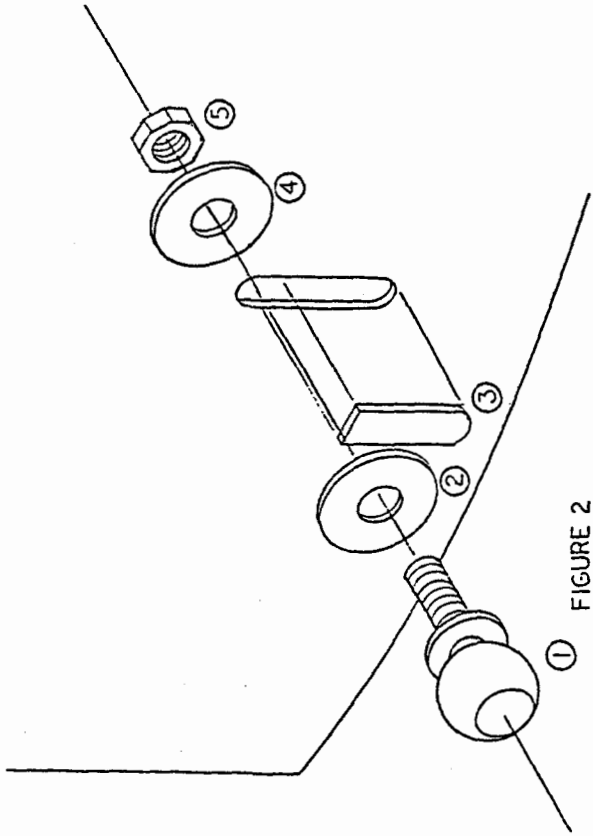

FIGURE 2
Remove the acrylic shield and reflective end covers as described on page 8 of this manual. Find the four ball studs (figure 2, item 1) in the "arm kit" carton. Position the shock mount insert (3) in the 38th end plate exhaust slot (of the top row) from the front of the sunbed. Position an 8mm fender washer (2) on the ball stud thread and pass it through the clearance hole created by the insert. Position another 8mm fender washer on the thread inside the sunbed, (4) and secure tightly with an 8mm lock nut (5). Repeat the exercise on the other end of the sunbed unit.